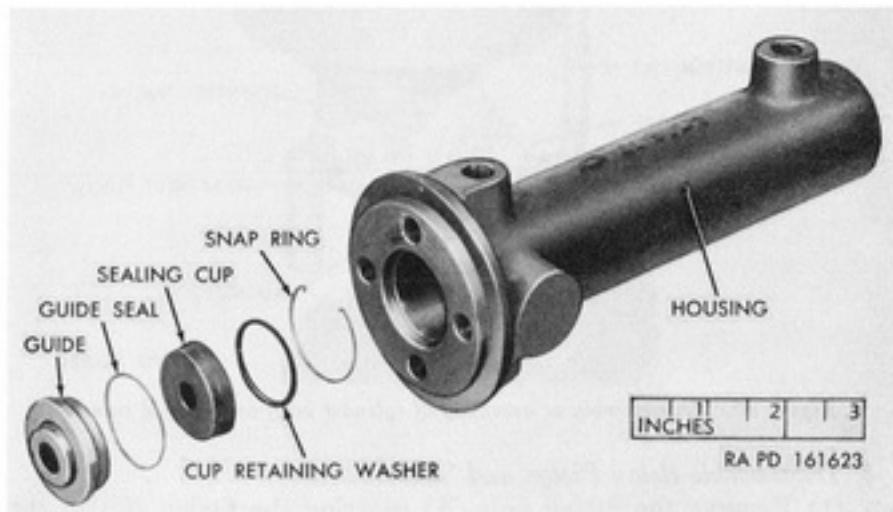

Figure 98. Push rod guide and seals—exploded view.
- (3) Remove the plug ((1) above) from the vise, and remove and discard the plug gasket (B). Remove the connector (N) and gasket (M) from the plug. Discard the gasket.
- (4) Remove the two bleeder valves (C) and the inlet plug (A) and plug gasket (B) from the housing (D). Discard the gasket.
- c. *Removal of Push Rod Guide and Seals* (fig. 98). Remove the push rod guide, the guide seal, the sealing cup, and cup retaining washer from the bore of the slave cylinder housing. Remove the snap ring. Discard the guide, seal, sealing cup, and snap ring.